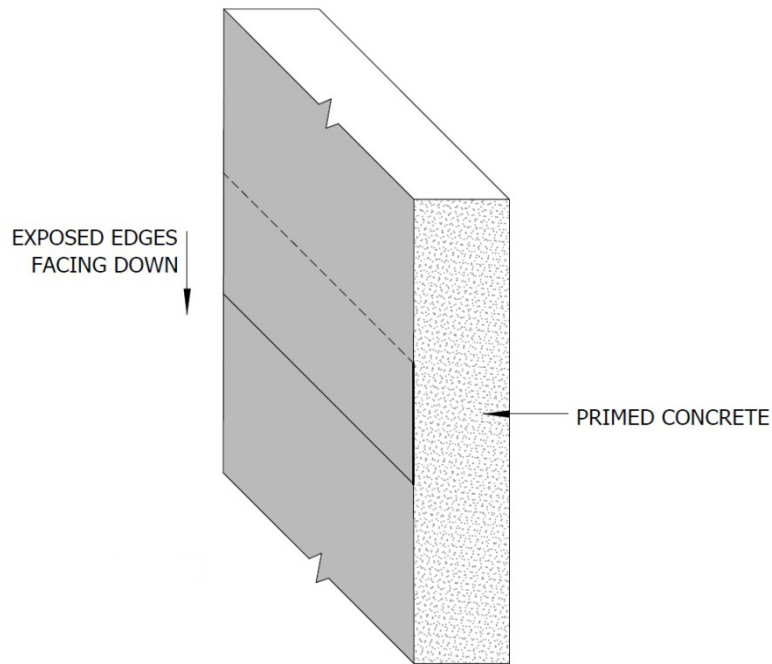

FIG. 9
- ii) All overlaps should be formed in such a way that the final exposed edge is facing downwards. (See fig. 9).